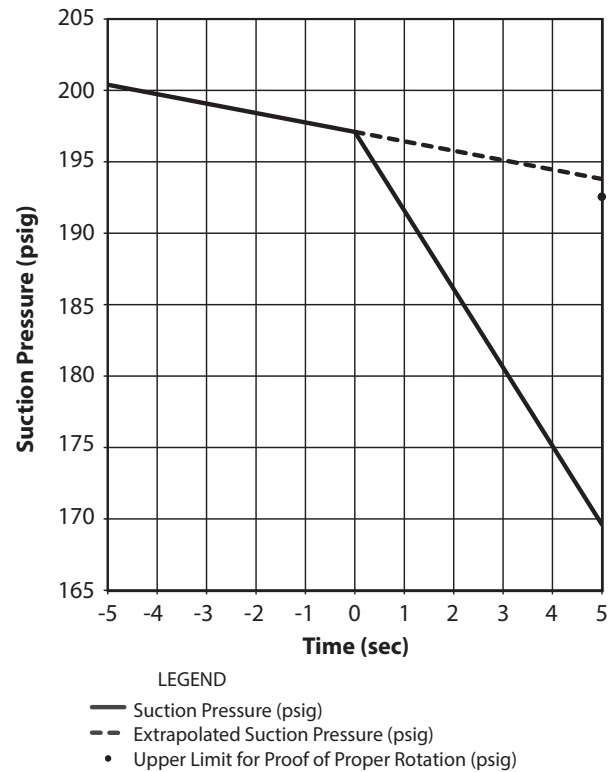

Fig. 61 — Reverse Rotation Detection (psig)
The example below lists sample suction pressures of a starting circuit. Figures 61 and 62 show reverse rotation detection for this example.
Using the rate of change of the suction from the example, five (5) seconds after t=0, the suction pressure should be 193.8 psig (1336 kPa), if the compressor did not start. Subtracting the 1.25 psig (8.62 kPa) from extrapolated suction pressure, 192.55 psig (1328 kPa) determines the upper limit that if the suction pressure is above this level the unit will fault on reverse rotation. This point is denoted by a black dot in Fig. 61 and 62. In the example, the suction pressure is lower than the upper limit, and therefore is allowed to continue operation.